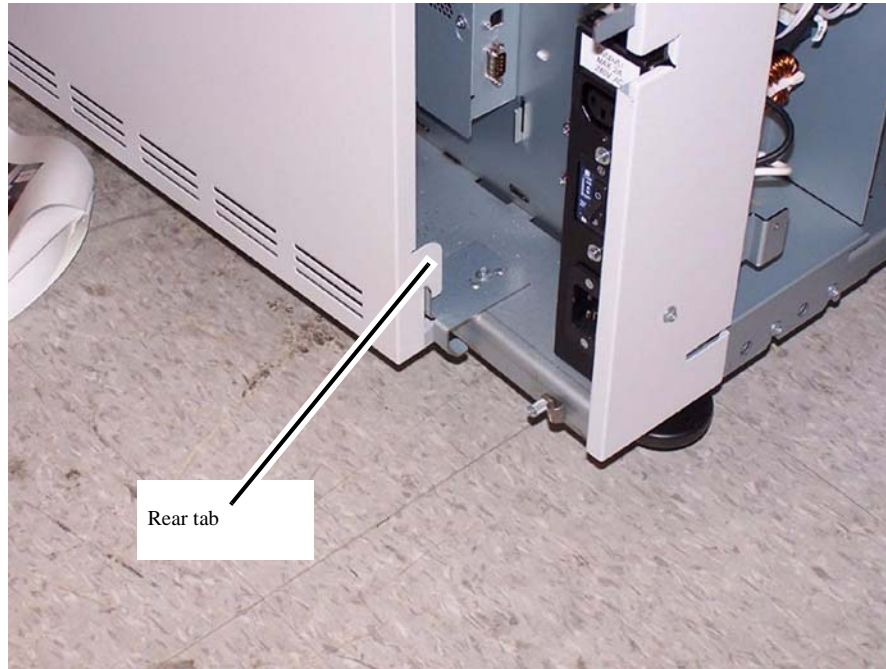

Figure 5 Right Lower Cover rear tab location
8. Remove the cover by sliding it to the rear to disengage the rear tab (Figure 5).